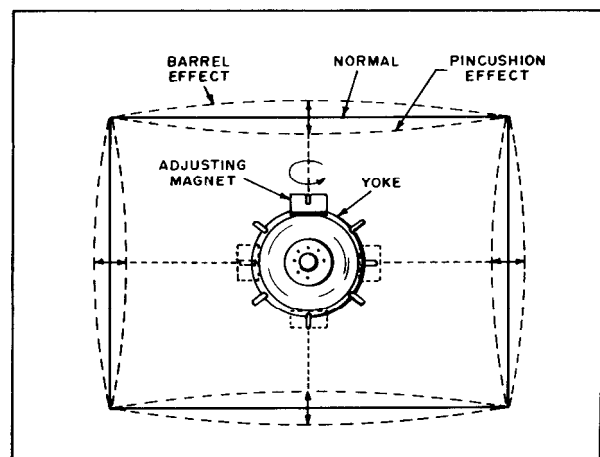

FIGURE 5: Pincushion/Barrel Adjustments
At the time of installation or after "kit" has been placed in final mounting (with any metal around it placed as in final installation) observe Raster Geometry Alignment. (Figures 5 and 6). Reposition Yoke Adjusting Magnets ONLY IF NECESSARY. Refer to pages 6 and 7.
Perform this adjustment if raster exhibits the abnormal effects shown in Figure 5.
2. Rotate the magnet to obtain the desired raster line labeled normal in Figure 5.